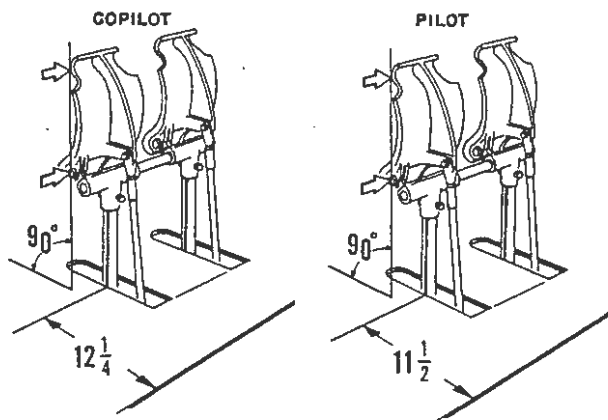

Figure 2-49. Rudder Pedal Neutral Setting
- f. Set pilot's and copilot's pedals in neutral; place a pin the same size as the opening in the pedals between each set of pedals to hold them in neutral (figure 2-49).
- g. Set pilot's pedals 11-1/2 inches and copilot's pedals 12-1/4 inches from forward edge of floorboards (figure 2-49).